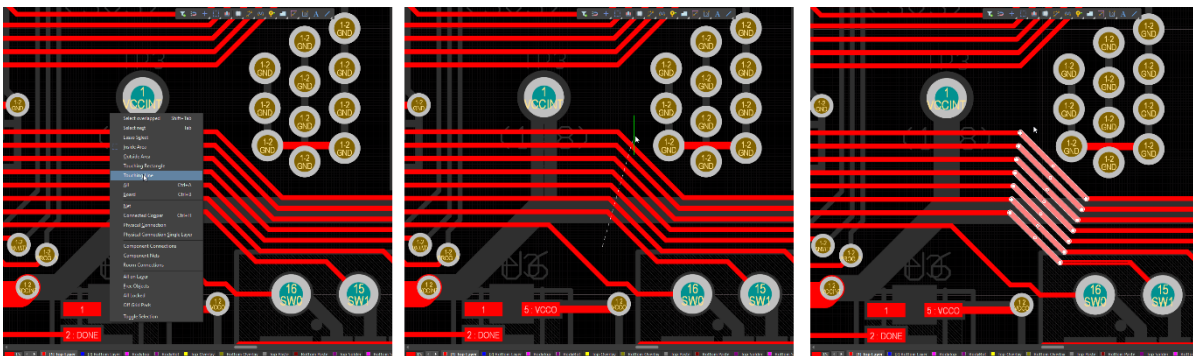

Figure 9. Press S, L then click to select segments touching that line
13. You can also slide multiple selected segments. The easiest way to select multiple segments is to use the Select Touching Line command. To launch this command, press **S** to activate the **Select** sub-menu, then press **L** to run the **Touching Line** command, as shown in Figure 9.
- a) Position the cursor below the diagonal segment of SW1, click once to start the selection line, then move the cursor up so that the selection line touches all the diagonal segments for SW1 through SW7. Then click a second time to perform the selection, take a look at Figure 9 for a better idea of how this works.